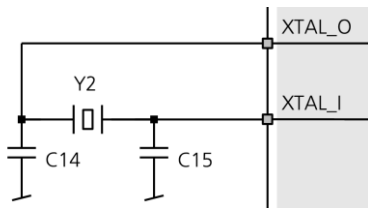
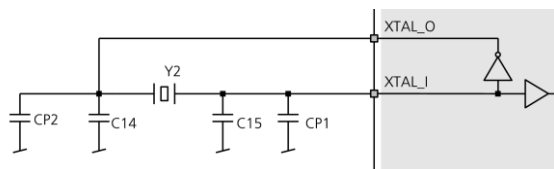

Figure 9: Crystal circuit
Figure 10: Crystal oscillator and parasitic capacitors
The actual frequency of a crystal oscillator depends on its load capacitance which is mainly formed by the two capacitors C14 and C15 shown in Figure 9. Each capacitor has an additional parasitic capacitance to GND in parallel formed by the circuit traces on the printed circuit board and the capacitance of the UBX-G7020 input and output (XTAL_I and XTAL_O). The crystal oscillator will oscillate on its specified frequency only if the crystal “sees” the specified load capacitance into the oscillator circuit (item 2.1 in Table 15). Figure 10 shows the crystal oscillator including its parasitic capacitors. Generally C14 and C15 should be equal in size, but sometimes one or two E-series steps difference in value may be required to approach the desired load capacitance.